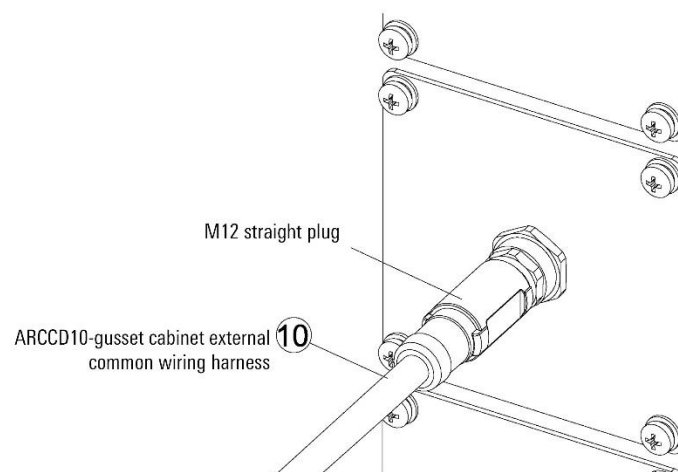

Figure 18-43 ARCCD10-gusset cabinet external common harness wiring
- Step6. Connect one end of the ARCCD10-gusset cabinet external common wiring harness with an M12 straight plug to the M12 female connector of the cabinet according to the triangular positioning mark, and the other end to the integrated spring terminal block, refer to Figure 18-43.